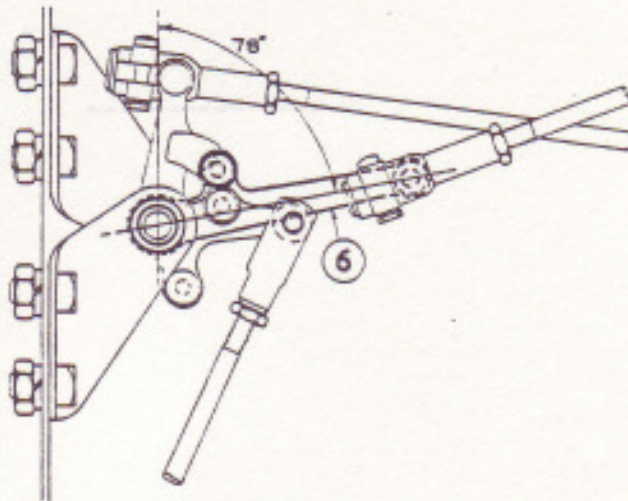

FIG.12. CORRECT ANGULAR POSITION OF LEVER '6'.
- (iii) Adjust the length of the rod (5), so that the lever (6) on the countershaft fitted to the dashboard is in the position as shown on Fig.12.